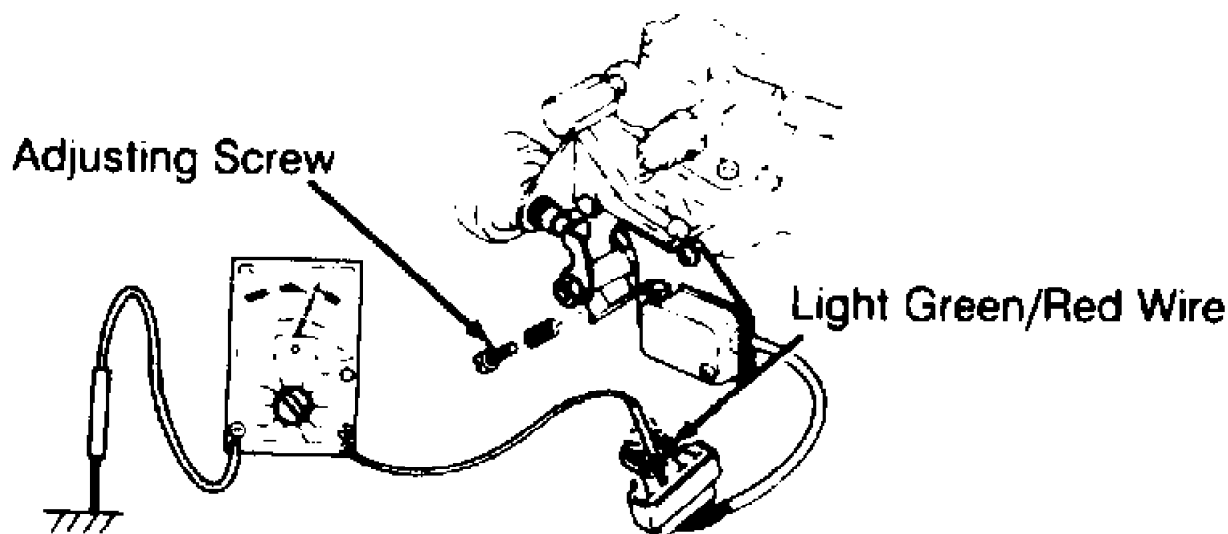

Fig. 21: B2200 Carbureted Adjusting Throttle Switch
1) Warm engine to operating temperature. Connect tachometer. Operate engine at idle. Using voltmeter, backprobe Light Green/Red wire terminal of idle switch connector. See Fig. 21.